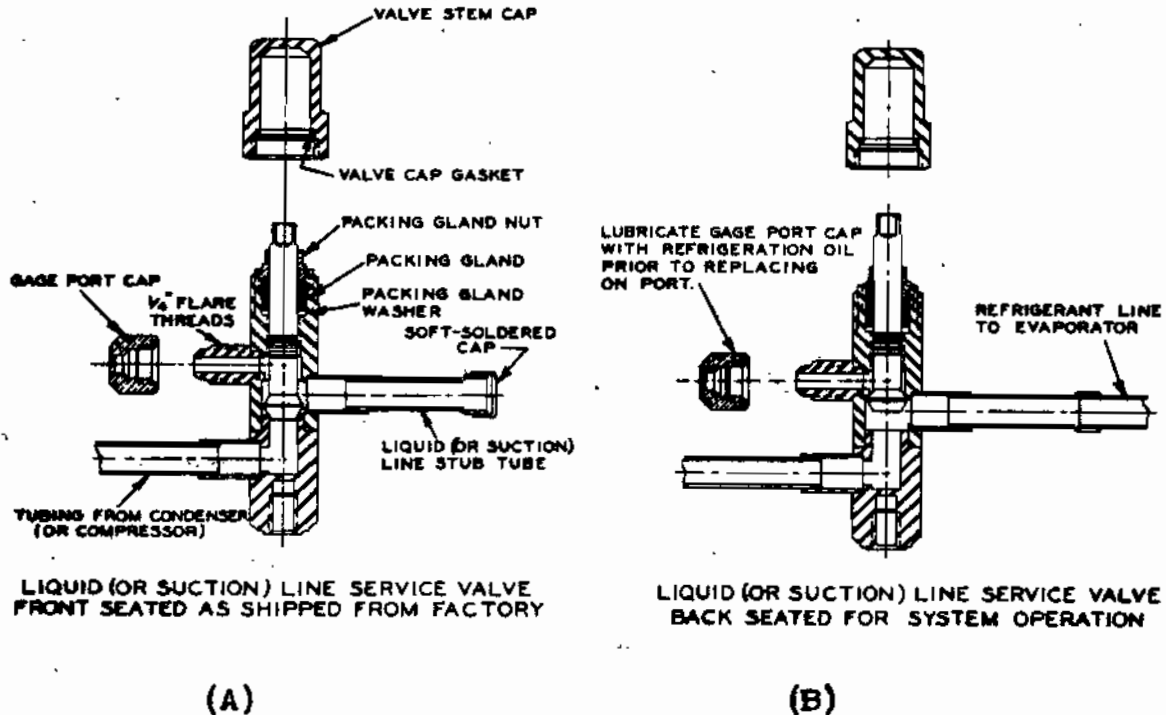

Fig. 4
1. Solder suction line to evaporator stub and run line to stub of Suction Service Valve at condensing unit. BEFORE UNSOLDERING SERVICE VALVE CAPS, REMOVE SERVICE PORT CAPS TO RELIEVE PRESSURE ON THIS SOLDERED END CAP. (Fig. 4)